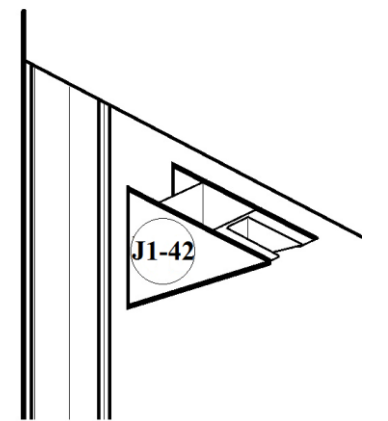

Figure 6
Firstly, insert the triangle J1-42 panel (the smallest panel) into the vertical angle corner of Top Rail (C) and Stile (A) by fitting each opening edge into the groove of each Top Rail (C) and Stile (A). Make sure that the groove of J1-42 panel is facing outward. See **Figure 6**.